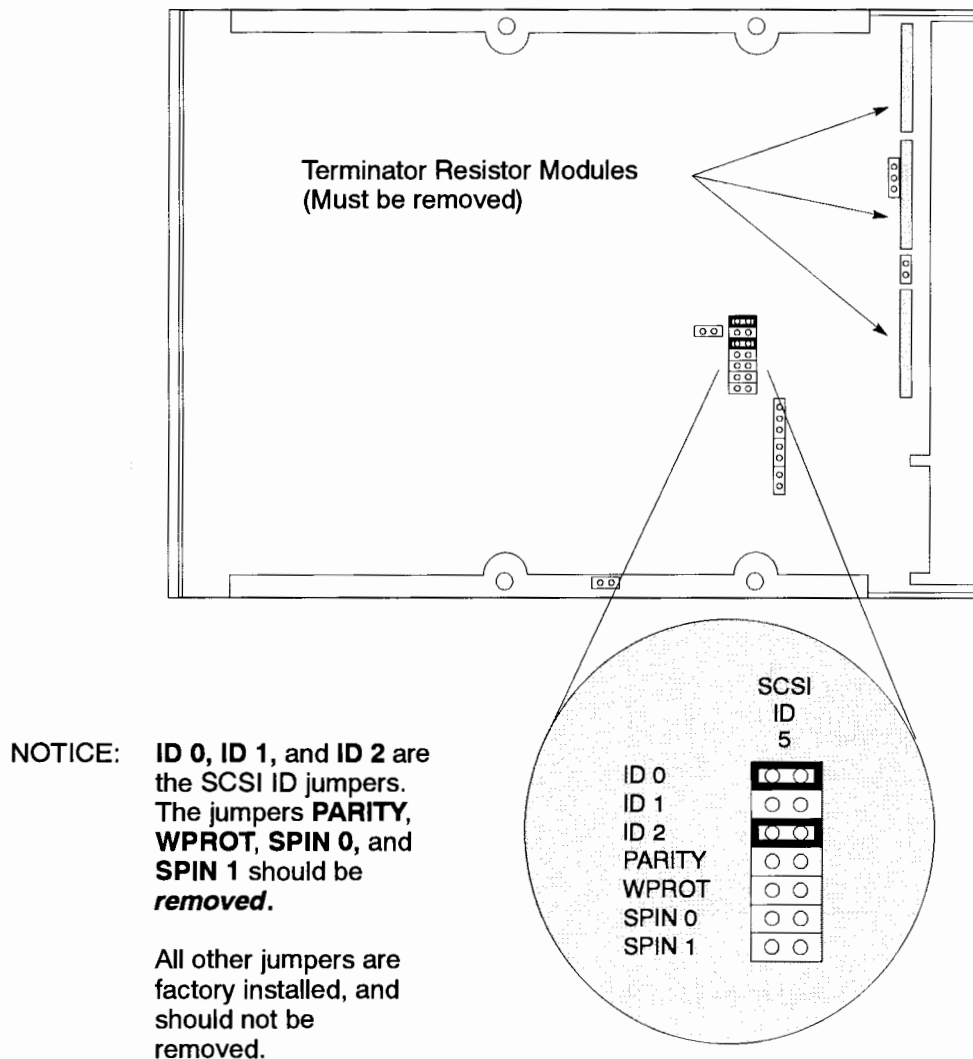

Figure B-36. Micropolis 1-GB Disk Drive Jumpers
- For a Micropolis 1-GB drive, refer to Figure B-36.